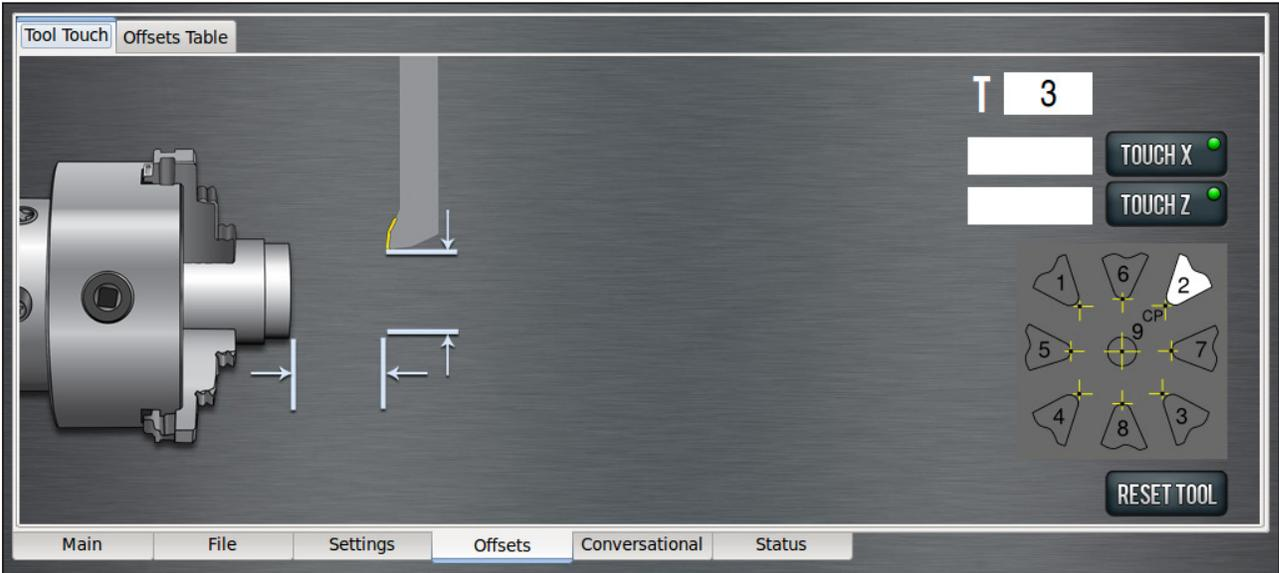

Figure 5.16
3. Brings up the tool touch off dialog (see **Figure 5.16**).